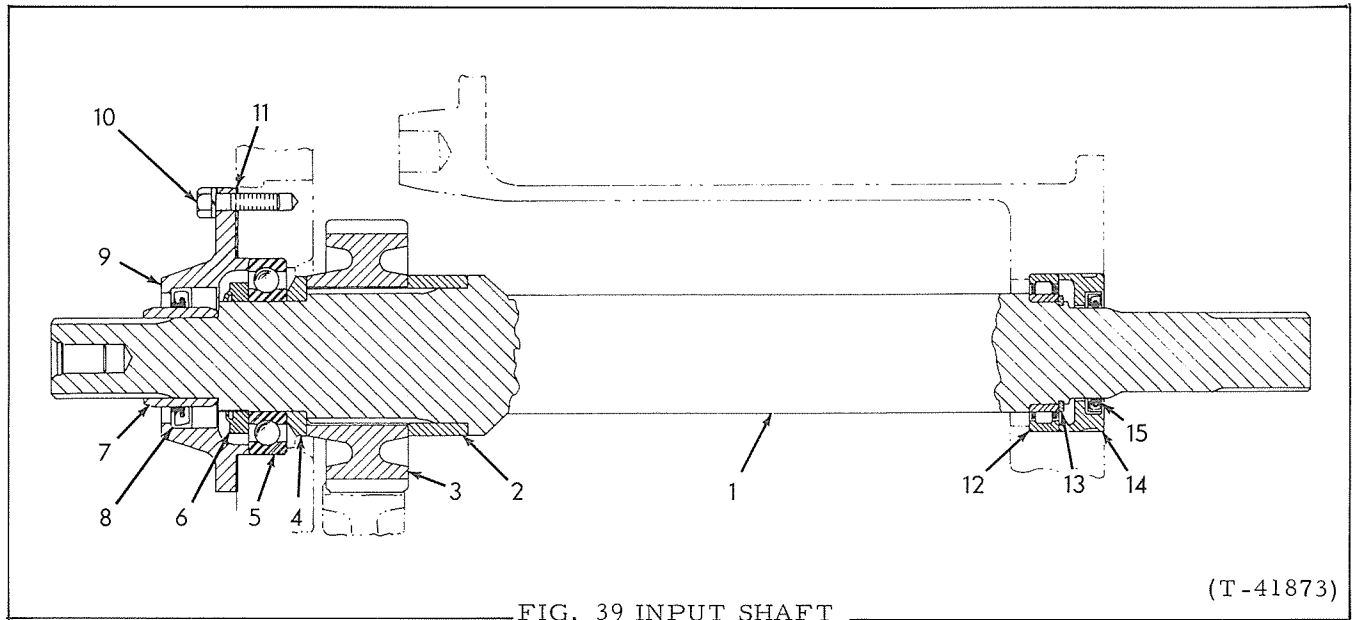

FIG. 39 INPUT SHAFT
- a. Refer to Fig. 39, remove spacer (4) gear (3) and spacer (2) from front end of shaft.
- b. Remove front oil seal wear sleeve (7) if excessively worn or grooved.
- c. If rear bearing is to be replaced, remove snap ring (13) and pull bearing race from shaft.